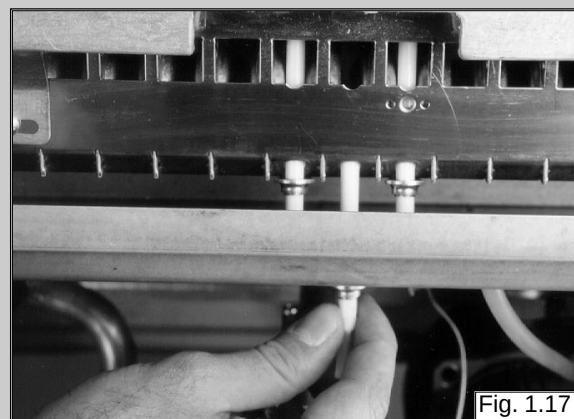

Fig. 1.17
6. Slide the electrode gently downward (see fig. 1.17).